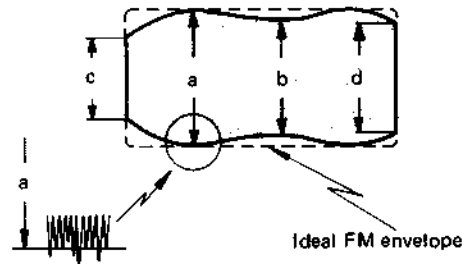

Fig. 4-35 FM waveform (max. output)
4. Refer to Fig. 4-35. Read the level of portion (a) of the waveform. If the waveform is serrated at point (a), read the value at the most uniform serrations as shown at left in Fig. 4-35.